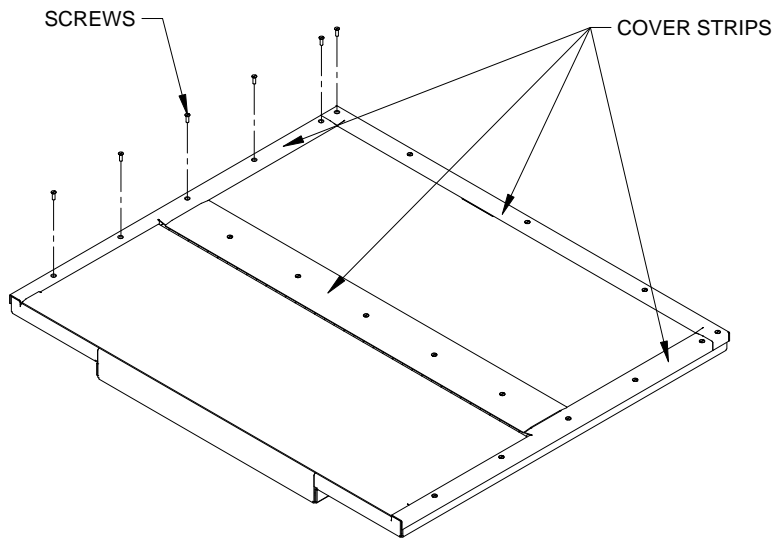

FIGURE 2-1: REMOVAL OF COVER STRIPS
- Refer to Figure 2-1. Mechanical support of ramp must be provided at six (three on each side) attachment points. Each attachment point uses two screws.